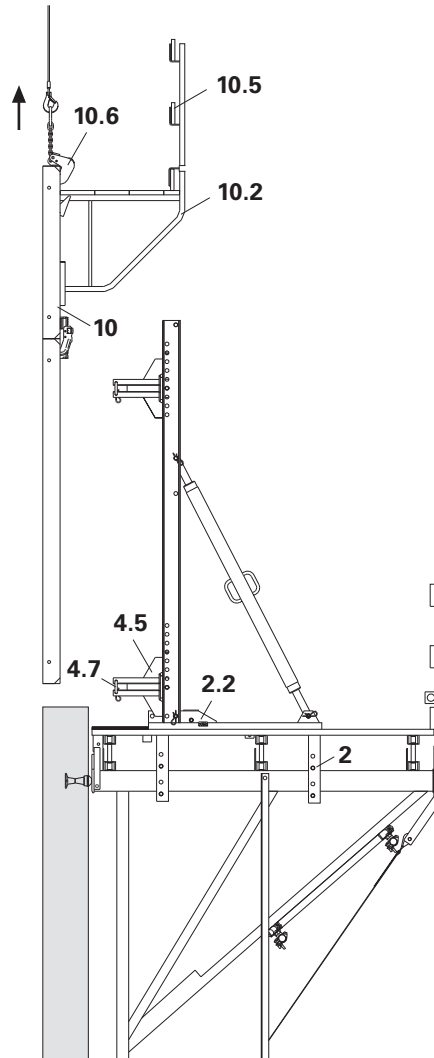

Fig. B2.20
1. Retract carriage (2) and secure with wedge (2.2), see B4.1. Brace strongbacks laterally.
2. Fix TRIO Lifting Hook (10.6) to the formwork unit (10) and then attach lifting gear.
5. Raise formwork and remove (e.g. storage area). (Fig. B2.20)